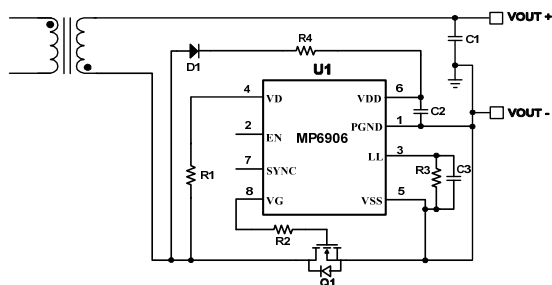
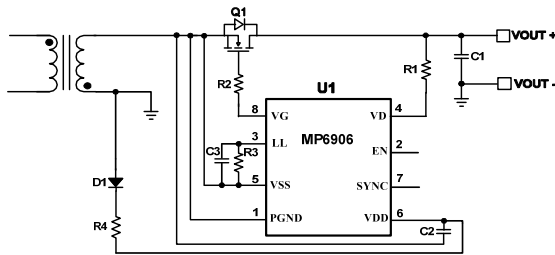

**Figure 10: IC Power Derived from the Auxiliary Winding in Low-Side Rectification**
### Figure 11: IC Power Derived from the Auxiliary Winding in High-Side Rectification
If the output voltage is out of the  $V_{DD}$  operating range or high-side rectification is used, an auxiliary winding solution for the IC's power supply is recommended (see Figure 10 and Figure 11). The auxiliary winding turn count ( $N_{au}$ ) can be set using Equation (2):